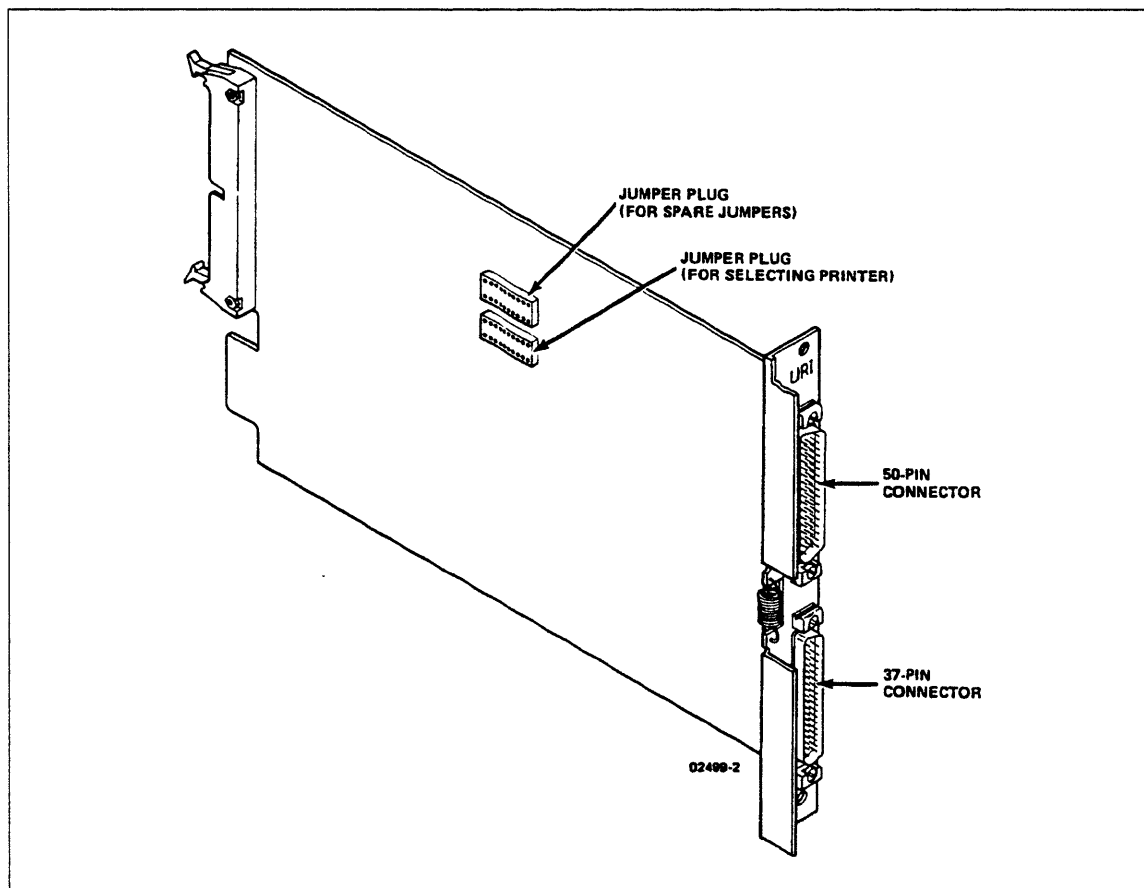

Figure 3-32. URI Board
2. Unpack URI boards (figure 3-32), equipment labels, and FCO labels.
4. Refer to figure 3-32 to find jumper plug for selecting printer (plug is at location 46EO).